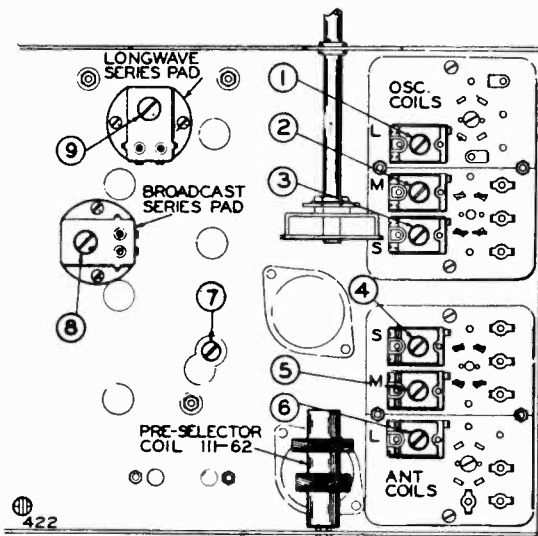

FIG. 3—BOTTOM VIEW SHOWING TRIMMERS
- (a) Set external oscillator to 1720 K.C. and adjust broadcast oscillator trimmer to resonance. (Adjustment number 1; see bottom view of coil assembly, Fig. 3).
- (c) Re-set external oscillator to 600 K.C., and adjust broadcast series pad to resonance by rotating condenser to approximately 600 K.C., rocking it slowly to and fro until by adjusting series pad maximum output is attained. This adjustment is located on the bottom of the chassis directly under the variable gang condenser. (See bottom view of chassis, Fig. 3).
(a) Set external oscillator to 187 meters (1600 K.C.) and adjust medium wave oscillator trimmer to resonance (adjustment number 2; see bottom view of coil assembly. Fig. 3.)
(b) Re-set external oscillator to 214 meters (1400 K.C.), rotate variable gang condenser and pick up signal. Adjust medium wave antenna trimmer (Adjustment number 5) to resonance; also adjust preselector trimmer condenser to resonance, (Adjustment number 7; see Bottom View, Fig. 3).
(c) Re-set external oscillator to 500 meters (600 K.C.), and adjust medium wave series pad to resonance by rotating condenser to approximately 600 K.C., rocking it slowly to and fro until by adjusting series pad maximum output is attained. This adjustment is located on the bottom of the chassis directly under the variable gang condenser. (See bottom view of chassis, Fig. 3, Adjustment 8).
(a) Set external oscillator to 860 meters (350 K.C.), and adjust long wave oscillator trimmer to resonance (adjustment number 1; see bottom view of coil assembly. Fig. 3.)
(c) Re-set external oscillator to 2000 meters (150 K.C.), and adjust long wave series pad to resonance by rotating condenser to approximately 2000 meters, rocking it slowly to and fro until by adjusting series pad maximum output is attained. This adjustment is located on the bottom of the chassis directly under the variable gang condenser. (See bottom view of chassis, Fig. 3, Adjustment 9).